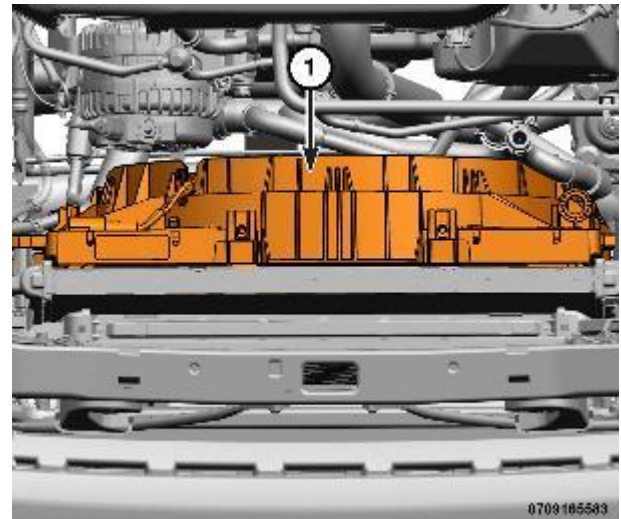

Figure 180 – Cooling Fan
11. Remove the cooling fan (1) by pulling upwards and away from the radiator (Figure 180).